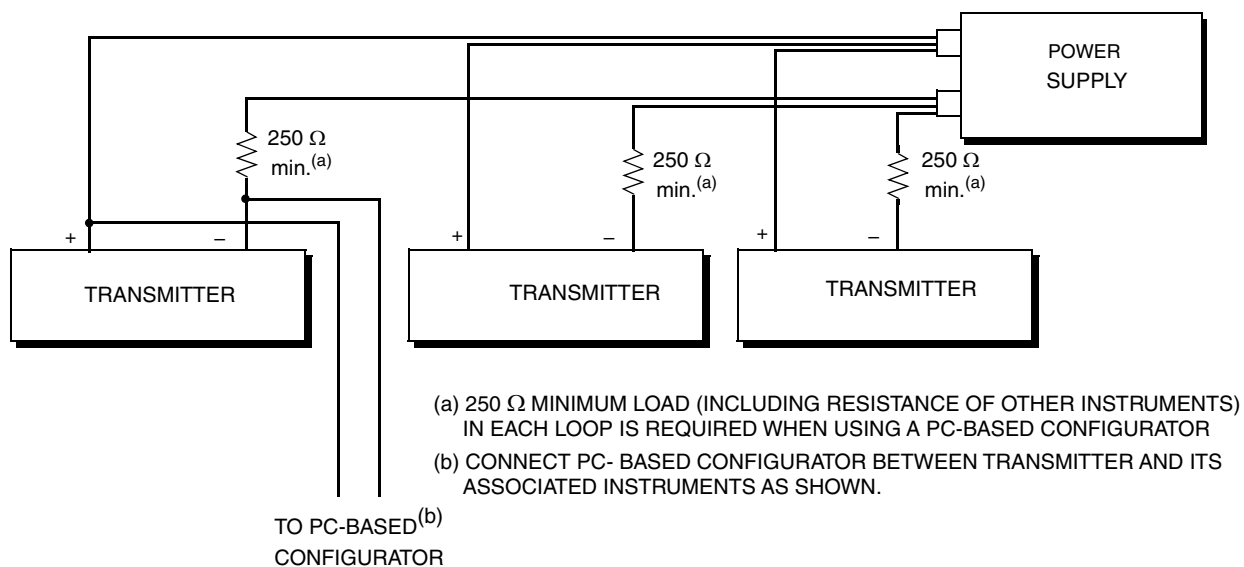

Figure 18. Wiring Several 4 to 20 mA Transmitters to a Common Power Supply
9. If wiring additional transmitters to the same power supply, repeat Steps 1 through 8 for each additional transmitter. The setup with multiple transmitters connected to a single power supply is shown in Figure 18.